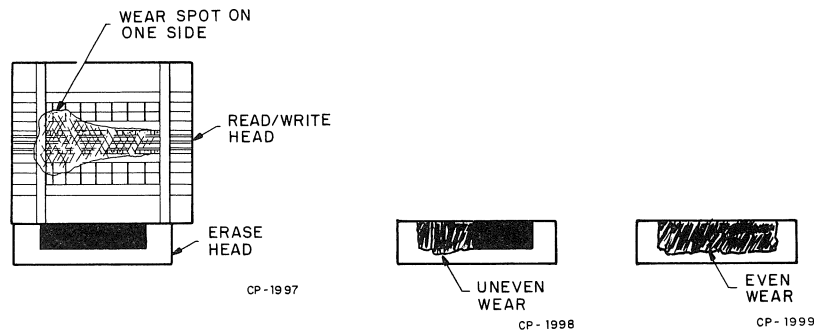

Figure 5-5 Examples of Head Assembly Wear Characteristics
4. Using a penlight flashlight, inspect the read/write head and erase head for oxide accumulation. A worn head will normally show oxide accumulation on the worn spot. If the read/write head is unevenly worn or if the erase head shows any wear, replace the head plate assembly. (Refer to Figure 5-5; shiny spots indicate uneven wear.)